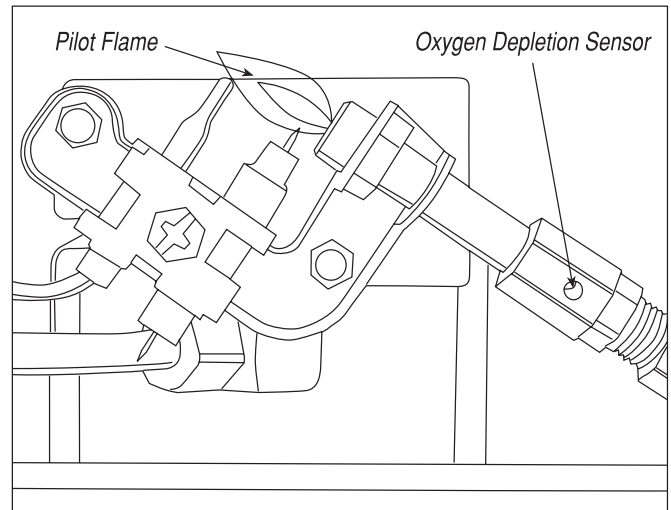

Figure 3
Visually inspect the pilot flame and burner periodically during use. The pilot flame should be blue in color (not yellow) and will extend beyond the thermocouple. The flame will surround the thermocouple just below the tip, see Figure 3, at right. A slight yellow flame may occur where the pilot flame and main burner flame meet. The burner(s) should be bright orange (with a slight blue color around the border, a red-orange haze that is visible on the ceramic tile is acceptable) and without a noticeable flame. A blue flame that rolls out at the top of the ceramic tile indicates an accumulation of dust, lint or spider webs inside the casing assembly and main burner assembly. If the pilot is yellow or the burner has a noticeable flame, cleaning may be required.
- 4 Remove (4) screws securing back cover to heater. Lift up slightly to release (2) plastic hooks on top of back cover.
- 6 Remove (3) screws attaching lower baffle to expose burner air openings.
- 9 Inspect and clean pilot (mounted to bracket) by using a vacuum or apply air pressure through the holes in the pilot indicated by the arrows in Figure 3, above.
- 11 Reinstall lower baffle with (3) screws
- 12 Slide back cover over (2) plastic hooks on top of heater. Make sure rear cover aligns with plastic side covers. Install (4) screws to hold in place.